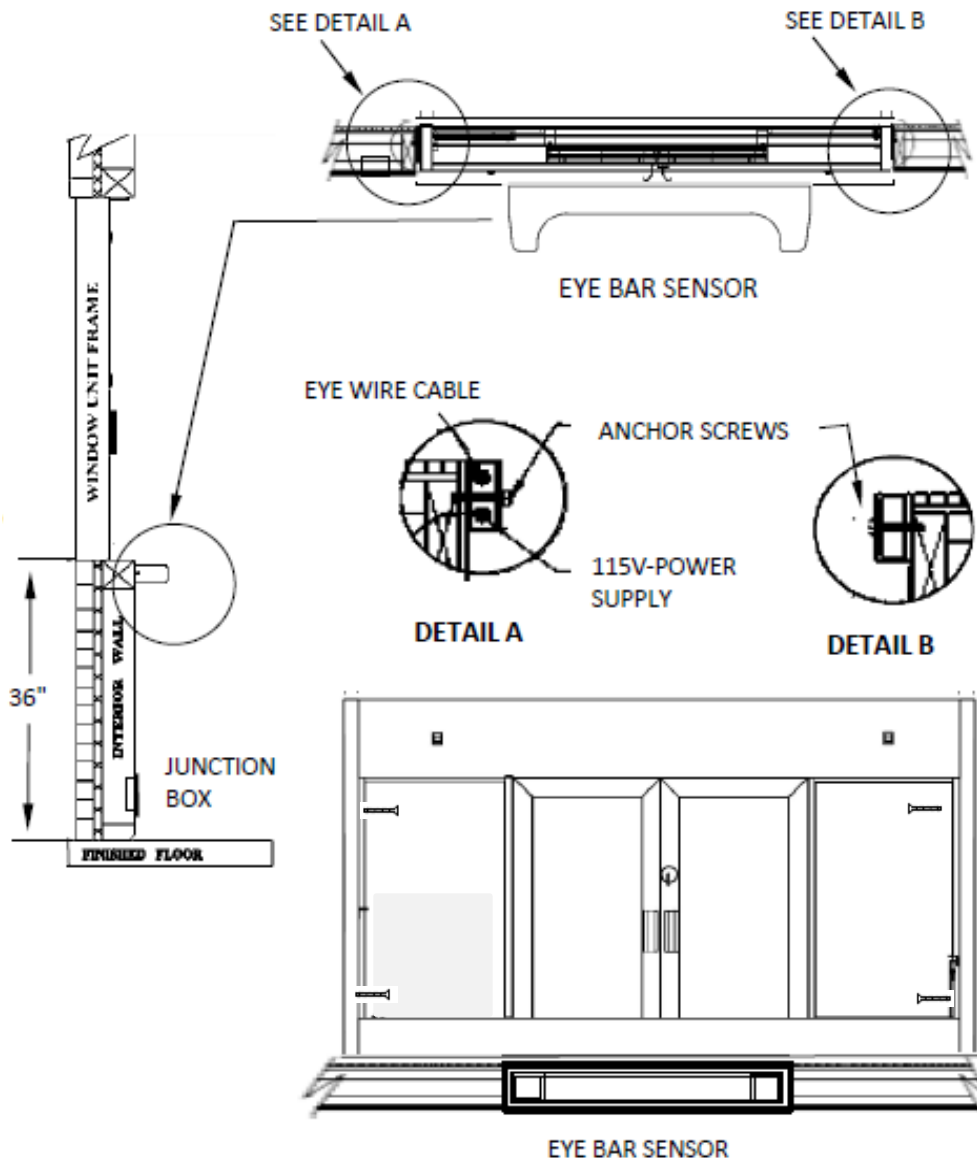

FIGURE 1
- 2) Anchor through each side jamb at two places approx. 5" at top and bottom of each jamb. (See Fig. 1)
Eye set to be mounted directly below the service opening. Bar to be mounted on the wall. (See Fig. 1)